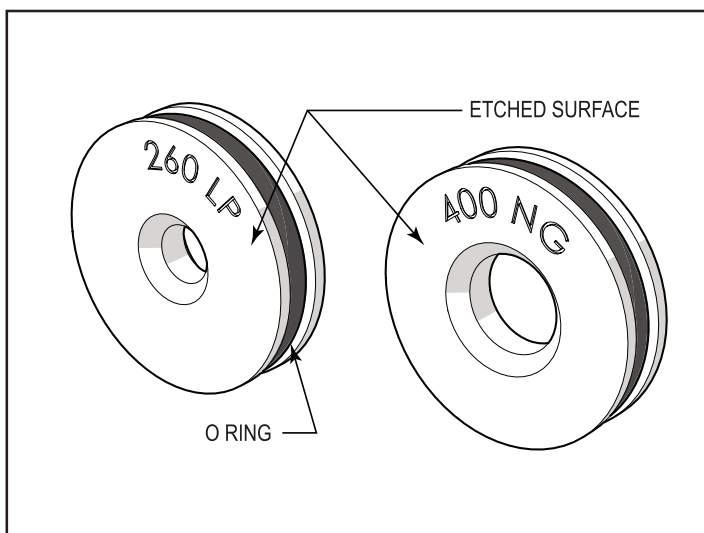

Figure 31. Etched Surface of Gas Orifice
13. Pressing firmly, seat the new gas orifice and O-ring firmly in the middle of the union. Use only your fingers so as not to damage the O-ring or the orifice. Ensure it is fully inserted and flat against the orifice seat with the etched surface facing outward for easier identification of the orifice type and size (see Figure 31).